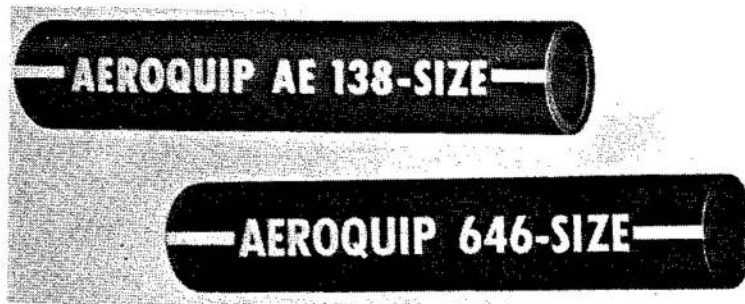

Fig. 1 Abrasion resistant sleeve Part No. AE138(646)
2. (1) Sleeve Part No. AE138 (formerly part No. 646) (fig. 1), is a tough, synthetic rubber, scuff cover which is fuel, oil and ozone resistant. This sleeve is used in both ground servicing and airborne applications and is satisfactory for use over a temperature range of  $-54^{\circ}$  to  $+121^{\circ}\text{C}$  ( $-65^{\circ}$  to  $+250^{\circ}\text{F}$ ).